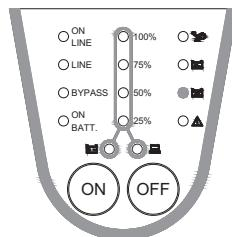

Fig. 4-6 Battery Replace
- ✓ BATTERY REPLACEMENT: This LED function is to alert users that the batteries should be replaced. When the microprocessor in the UPS detects a battery fault, the UPS alarm will beep for 0.1 seconds every 2.0 seconds. See Fig. 4-6.